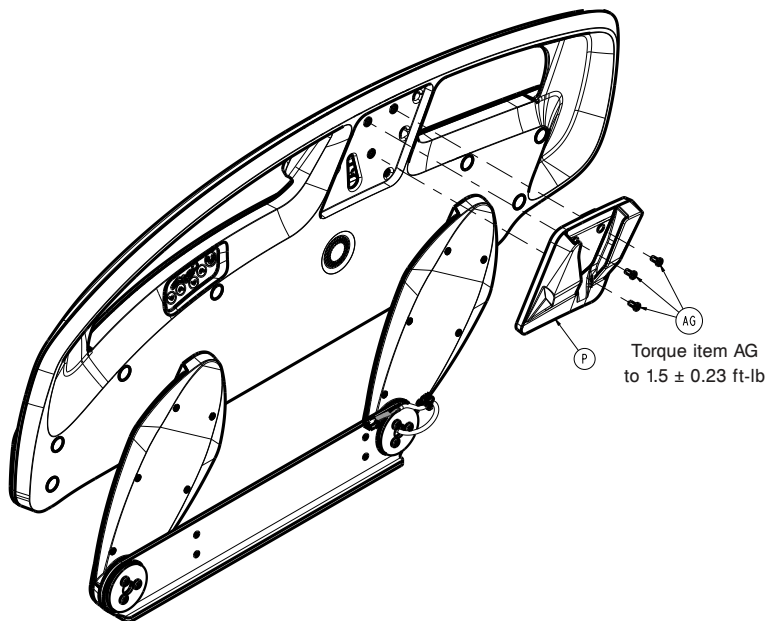

Figure 34 – Replacing the siderail control board
- Using a pick, remove the label from the siderail in the patient belongings bracket (P) (Figure 34). Discard the label.
- Using a $1/8$ " hex driver, remove the three screws (AG) that secure the patient belongings bracket (P) to the siderail hoop (Figure 34). Save the screws. Remove and save the patient belongings bracket.
7. Using a pick, remove the label from the siderail in the patient belongings bracket (P) (Figure 34). Discard the label.
8. Using a 1/8" hex driver, remove the three screws (AG) that secure the patient belongings bracket (P) to the siderail hoop (Figure 34). Save the screws. Remove and save the patient belongings bracket.
- Using a 1/8" hex driver, remove the three screws (AG) that secure the patient belongings bracket (P) to the siderail hoop (Figure 34).